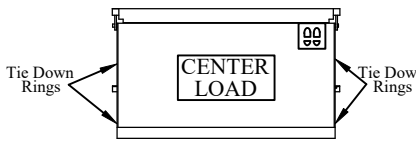

Figure 8: Step 10.
Step 10. To load and use the railgate, center the load on the platform side to side and front to back (Figure 8). Put heavier loads as close to the front of the platform as possible (near truck). Platform cart stops may be actuated at this time, if equipped. Tie down rings are provided to help secure the load.
- Stand in the area indicated by the footprints in the figure below (Figure 8), keeping hands and feet away from the edges and any moving parts.